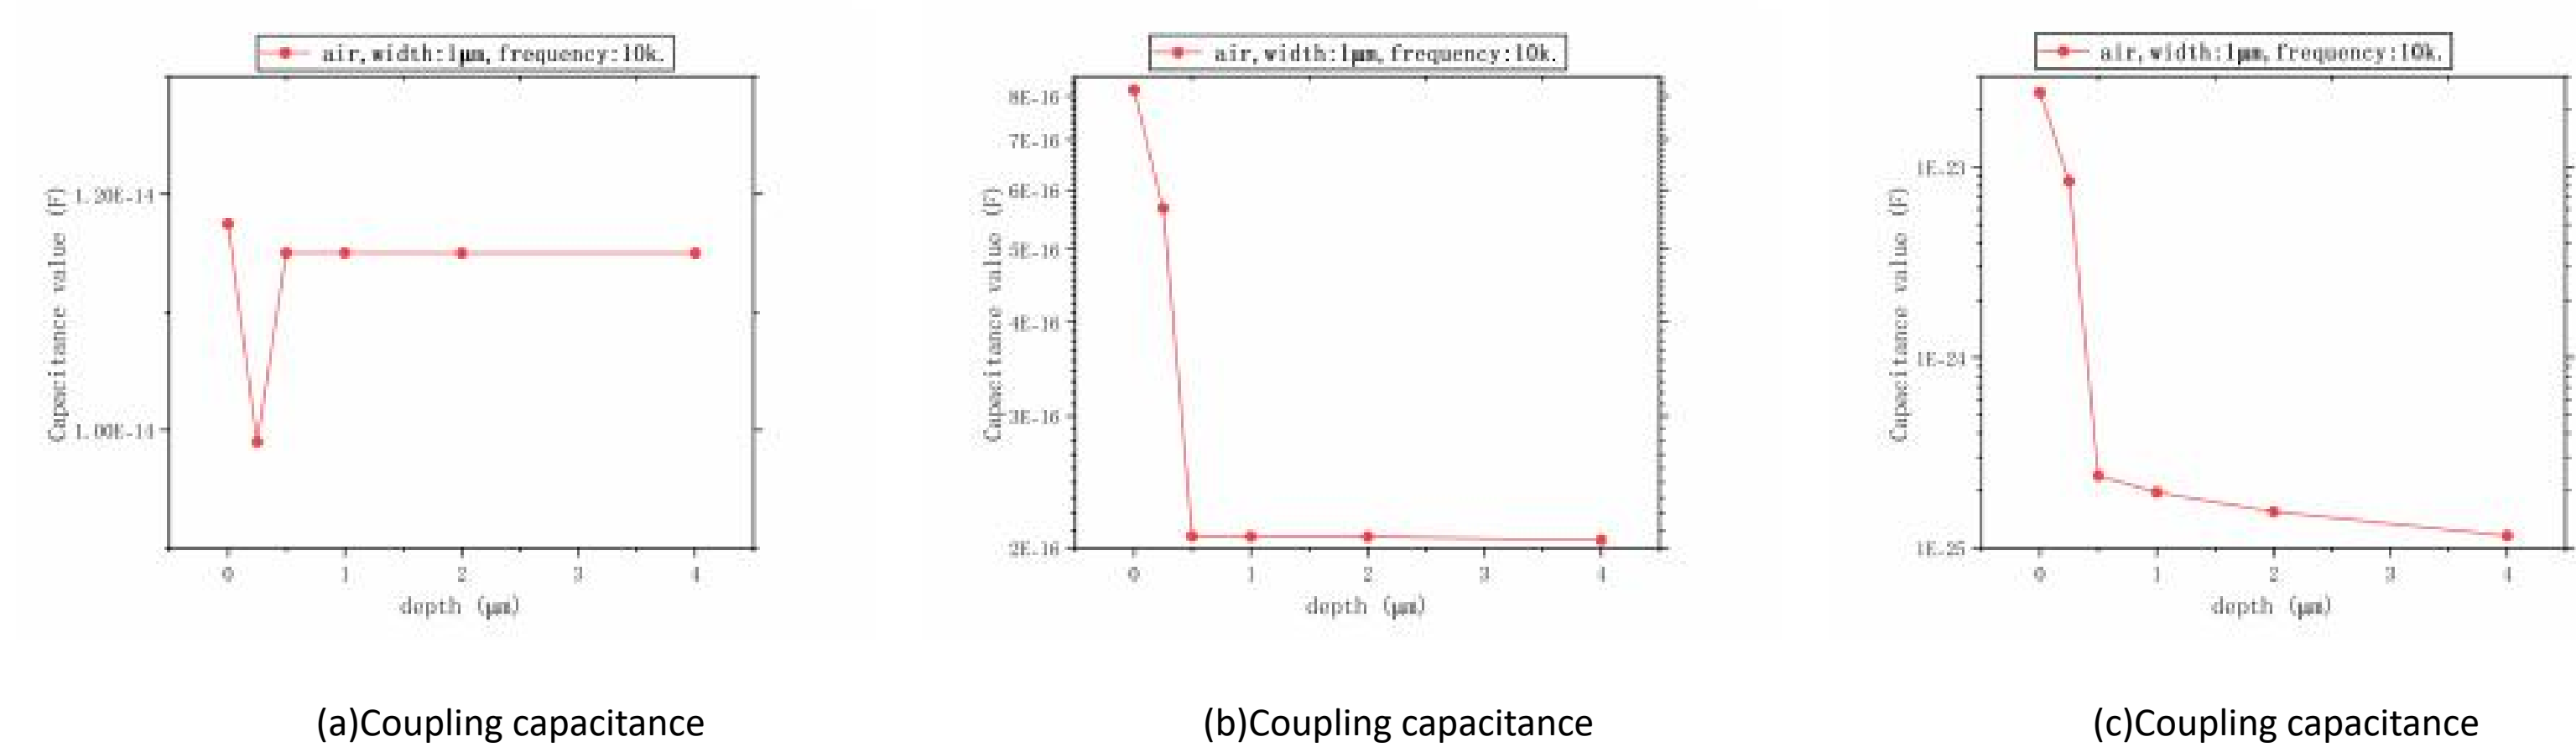

Fig. 3 Isolation Depth vs. Capacitance (Air, 1 μm Width, 10 kHz)
- C_{bulk} : with theoretical calculations yielding $\sim 3 \times 10^{-16}$ F that matches Figure 3(b) experimental data. ($\epsilon = 3 \times 10^{-11}$ F/m, $S = 5 \times 10^{-11}$ m², $d = 50$ μm)